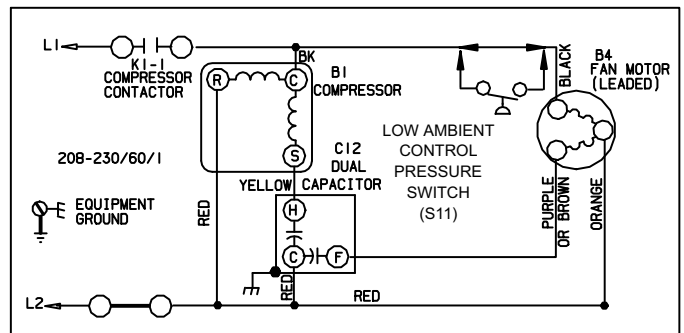

Figure 3. Typical Field Wiring of Low Ambient Control Pressure Switch (S11)
3a. If the unit has a mechanical fitting high pressure switch, remove the switch and install the end of the tee to the pressure tap fitting where you removed the high pressure switch. Connect the unit high pressure switch onto the last port with the valve core. Run the wires in the back of the control panel through the hole with the compressor wires. Wire the pressure switch per figure 3 wiring diagram. Make all electrical connections in the control box.
3b. If the unit does not have a mechanical fitting high pressure switch, install tee fitting on the condensing unit liquid line service port. Run the wires up into the control box. Wire the pressure switch as per figure 3 wiring diagram. Make all electrical connections in the control box.
5. - Low ambient control pressure switch (S11) is wired in series with condenser fan. See figure 3 for typical field wiring for the low ambient control pressure switch.